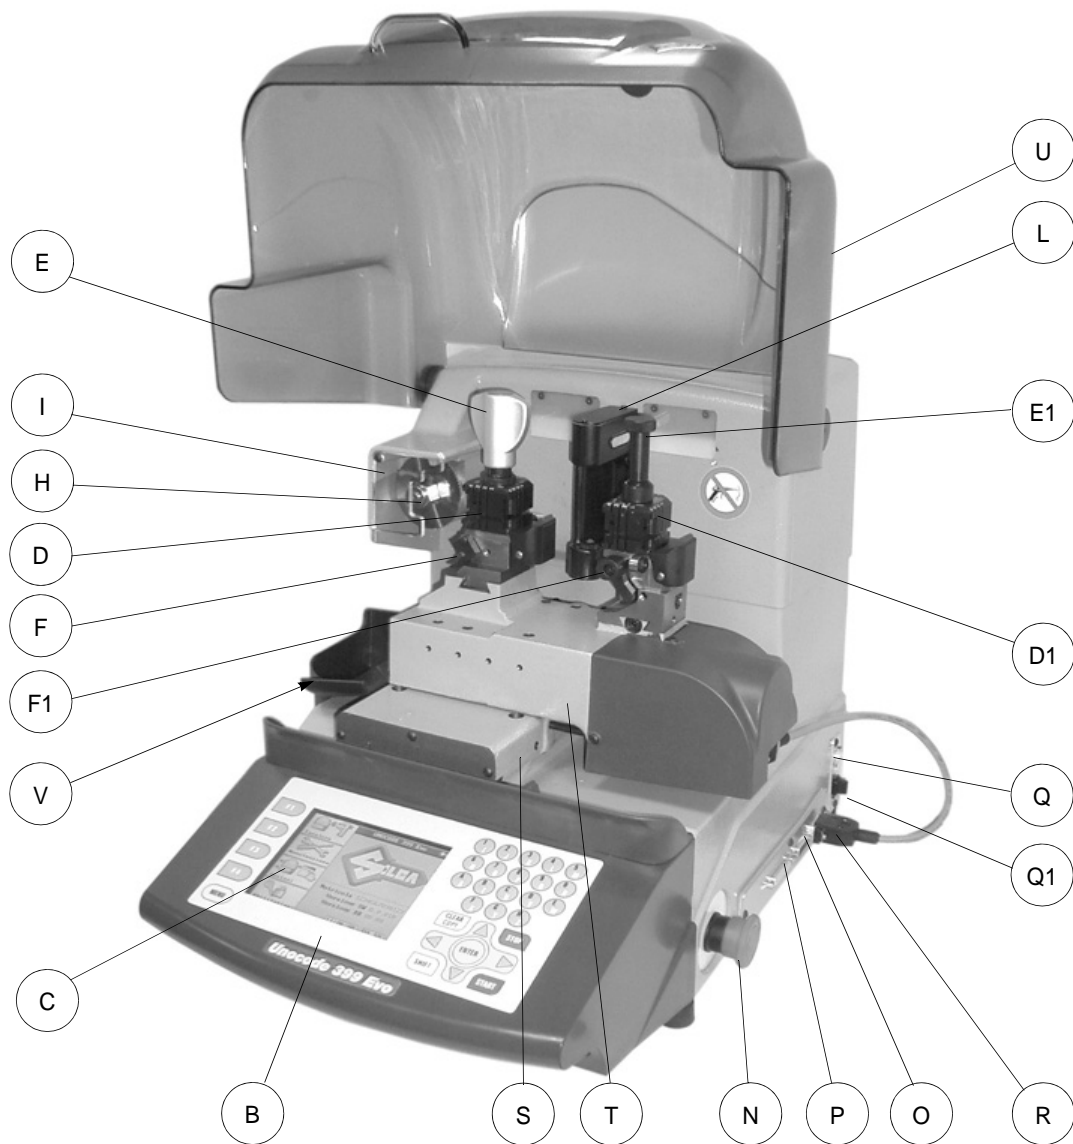

Fig. 5
The shield (U) (fig. 5, page 6) must be raised in order to fit keys for cutting or carry out other operations. Raising of the shield is controlled by a microswitch and deactivates the operating and movement functions, including the cutter. A special message appears on the display to warn that the shield is not closed.
The red emergency button (N) (fig. 5, page 6) placed on the right-hand side of the machine is used to stop it immediately in the event of faulty operation or danger for the operator.